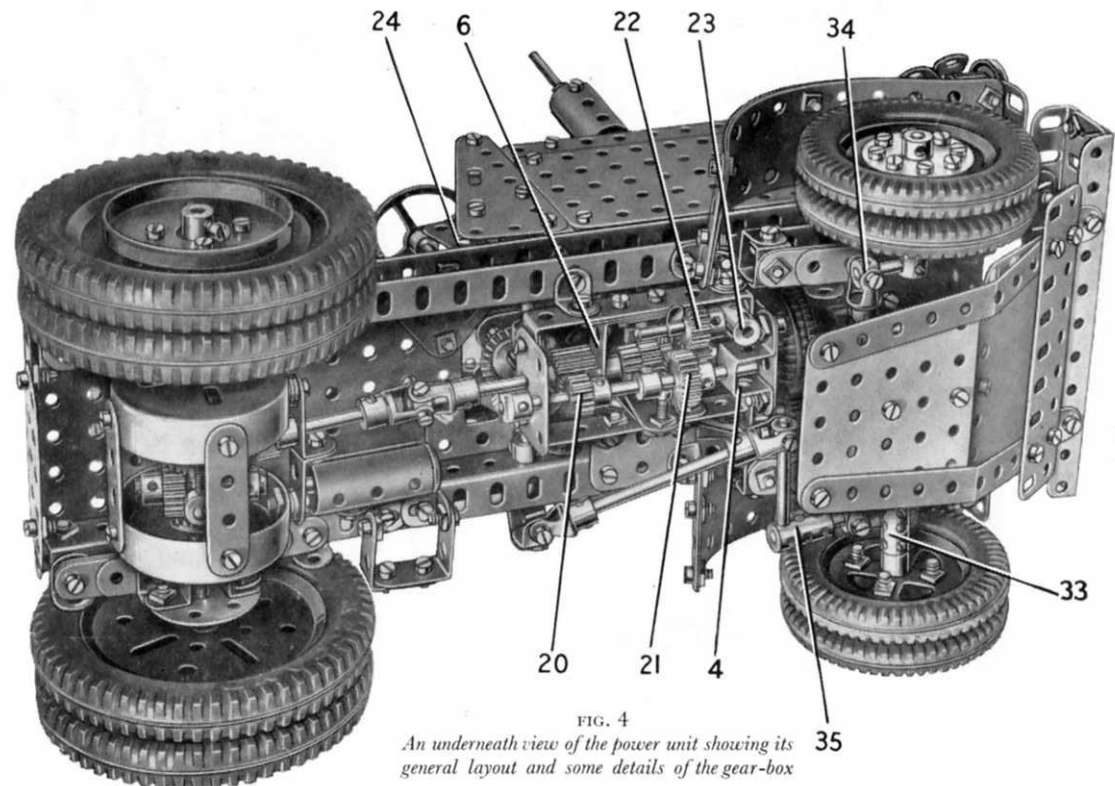
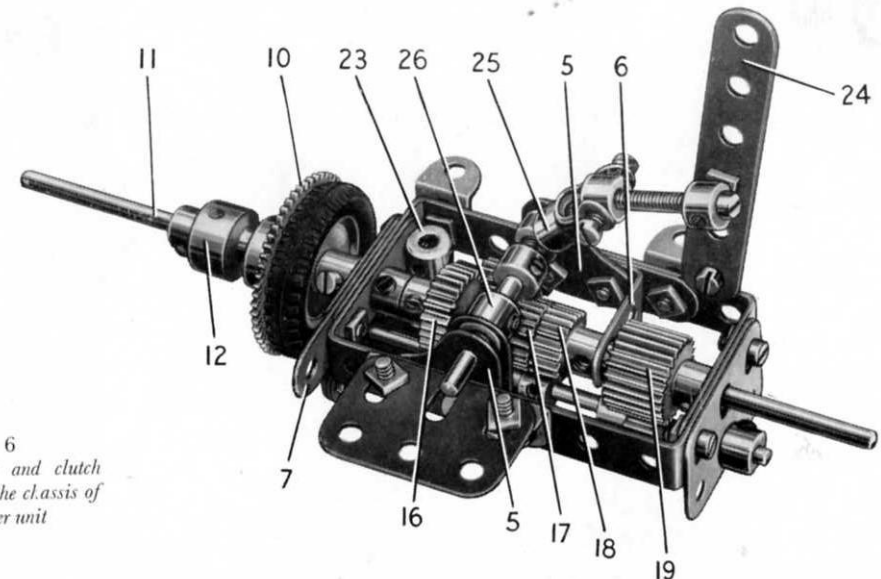
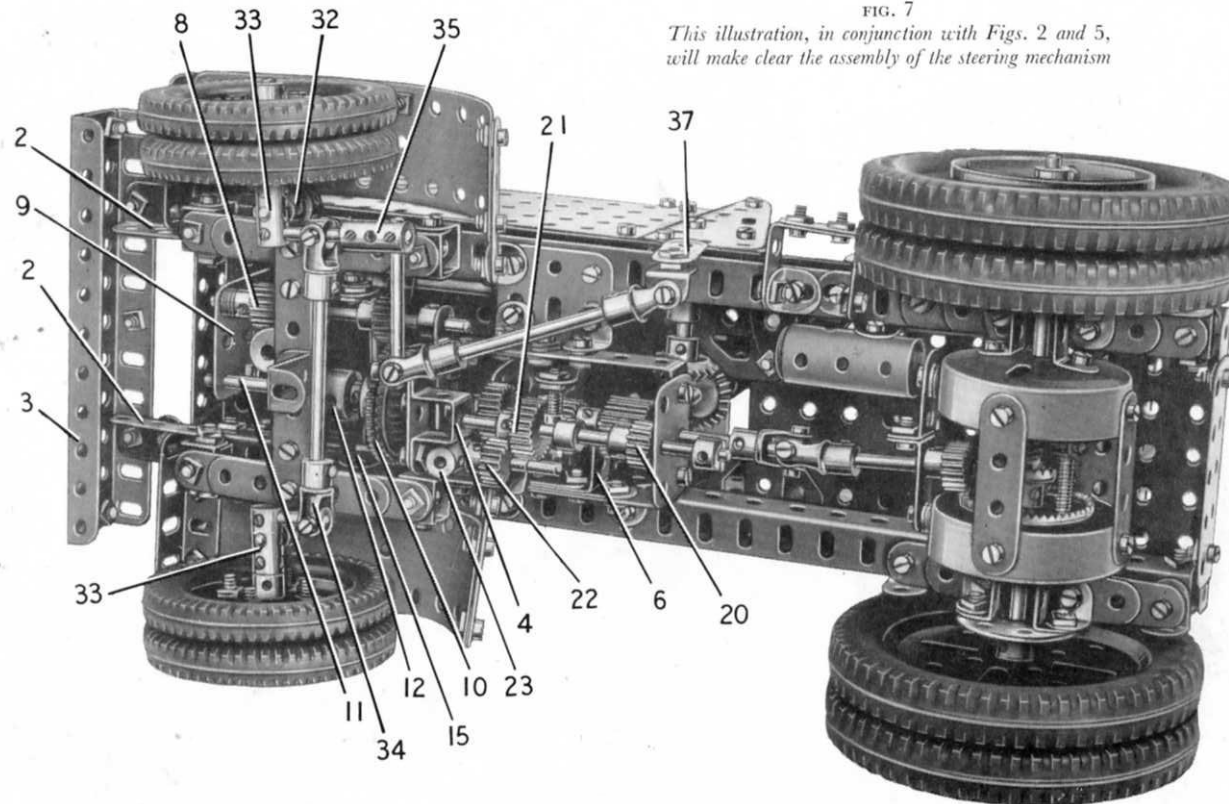

FIG. 4
FIG. 6
FIG. 7
side-members are connected by a $5\frac{1}{2}'' \times 3\frac{1}{2}''$ Flat Plate and a $3\frac{1}{2}''$ Angle Girder (1), to which a $2\frac{1}{2}''$ Flat Girder is bolted. Each side-member is extended forward three clear holes by a $2\frac{1}{2}''$ Angle Girder (2) (Fig. 7), and to these is bolted a $5\frac{1}{2}''$ Angle Girder. A $5\frac{1}{2}''$ Flat Girder is fixed to the $5\frac{1}{2}''$ Angle Girder to support a further $5\frac{1}{2}''$ Angle Girder (3). Two Flat Trunnions are bolted to the front edge of the $5\frac{1}{2}'' \times 3\frac{1}{2}''$ Flat Plate as shown in Fig. 2.
An E15R Electric Motor is bolted by one of its flanges to one side-member of the chassis, and is connected to the other side-member by two Fishplates (see Fig. 2). The frame of the gear-box consists of two $3'' \times 1\frac{1}{2}''$ Double Angle Strips bolted together by their lugs, with a $1\frac{1}{2}''$ Flat Girder attached at each end by bolts passed through its slotted holes. To one of the Flat Girders is fixed a Double Bent Strip (4) (Fig. 4), and to each Double Angle Strip is bolted a $1''$ Corner Bracket (5) (Fig. 6). A $1'' \times 1''$ Angle Bracket (6) is attached
Two Angle Brackets are also bolted to one side of the frame, and these are fixed direct to the chassis side-member. Two further Angle Brackets are spaced from the other side of the frame by a Washer on each bolt, and a $1\frac{1}{2}''$ Flat Girder bolted to these Angle Brackets (see Fig. 6) is attached to the chassis.
A Worm is fixed on the Motor shaft and is arranged to drive a $\frac{1}{2}''$ diameter, $\frac{1}{2}''$ face Pinion (8) (Fig. 7) fixed on a $3\frac{1}{2}''$ Rod. This Rod is mounted in the Strip (7) and in a $1\frac{1}{2}''$ Flat Girder (9) that is supported by a $1\frac{1}{2}''$ Angle Girder bolted to the Motor. The Pinion (8) is spaced from the Flat Girder by four Washers and the Rod is held in position by a Collar. The $3\frac{1}{2}''$ Rod also carries a $\frac{1}{2}'' \times \frac{1}{4}''$ Pinion that drives a 57-tooth Gear (10) on a $5''$ Rod (11). This Rod is supported in the Flat Girder (9) and in one end of the gear-box frame, and it forms the gear-box main shaft. The Gear (10) is gripped in a Socket Coupling (12) that is free to turn on Rod (11). The Gear is pressed by a Compression Spring against a Motor Tyre on a $1''$ Pulley fixed on Rod (11). The Compression Spring is placed between the Socket Coupling (12) and a Collar, and this assembly forms the clutch mechanism.
The Rod (11) (Figs. 6 and 7) carries, inside the gear-box frame, a Collar, a $\frac{3}{4}$ " Pinion (16) and a $\frac{1}{2}$ " Pinion (17). The Rod projects about $\frac{1}{4}$ " beyond Pinion (17) into a $\frac{1}{2}$ " Pinion (18) on the output shaft. This shaft is a 2 $\frac{1}{2}$ " Rod mounted in one end of the frame and in the 1" x 1" Angle Bracket (6), and it carries also a $\frac{3}{4}$ " diameter, $\frac{1}{2}$ " face Pinion (19) (Fig. 6).
The layshaft is a 3 $\frac{1}{2}$ " Rod fitted with a $\frac{1}{2}$ " Pinion (20) (Fig. 7), a Collar and a $\frac{3}{4}$ " Pinion (21). The layshaft is mounted as shown in Fig. (7) and is free to slide in its bearings, but the sliding movement is limited by one half of a Dog Clutch, which serves as a Collar. A $\frac{1}{2}$ " reverse Pinion (22) (see Fig. 4) is retained on a 1 $\frac{1}{2}$ " Rod by a Spring Clip but is free to turn on the Rod. The Rod is fixed in the centre cross hole of a Coupling (23), which is screwed as shown on to a bolt at one end of the frame. It should be noted that one of the bolts supporting the Double Bent Strip (4) (Figs. 4 and 7) is fitted with a nut before it is passed through the frame, so that the shank of the bolt is clear of the Coupling (23).
The sliding movement of the layshaft is controlled by a lever (24) (Fig. 6) which is formed by a 3" Strip *lock-nutted* at its lower end to the chassis. A Collar is screwed on to a bolt fixed in the lever by a nut, and a 1 $\frac{1}{8}$ " Bolt fixed in the Collar is fixed also in a Swivel Bearing (25) (Fig. 6). A $\frac{3}{8}$ " Bolt passed through the boss of the Swivel Bearing is screwed into a Collar fixed on a 2" Rod mounted in the Corner Brackets (5). A Crank (26) is fixed on the Rod, with a Compression Spring between it and one of the Corner Brackets (5), and a $\frac{1}{2}$ " Bolt held in the Crank by two nuts engages between the Pinion (21) and the Collar on the layshaft (Fig. 7).
Top gear is obtained by sliding the layshaft so that Pinion (21) (Fig. 7) engages both Pinions (17) and (18) (Fig. 6). Second gear is provided by meshing Pinion (19) (Fig. 6) with Pinion (20) (Fig. 7) and Pinion (21) (Fig. 7) with Pinion (17) (Fig. 6). Reverse is obtained when Pinion (19) (Fig. 6) is in mesh with Pinion (20) and Pinion (21) engages the reverse Pinion (22) (Fig. 7), which is in constant mesh with Pinion (16) (Fig. 6).
A 3 $\frac{1}{2}$ " Rod is passed through one half of the casing and on it a 1 $\frac{1}{2}$ " Contrate (28) is mounted *freely*. A $\frac{3}{4}$ " Contrate (29) is *fixed* on the Rod, which extends into a Coupling (30). Two 1" Screwed Rods are fixed by nuts in the Contrate (28) and on each of them a Collar is screwed as shown. A 1 $\frac{1}{2}$ " Rod passed through the Coupling (30) is fixed in the Collars. Two $\frac{3}{4}$ " Pinions are mounted *freely* on Pivot Bolts, which are screwed into the Coupling (30) opposite to each other. These Pinions engage the Contrate (29), and mesh also with a similar Contrate on a 3" Rod passed through the other half of the axle casing. Washers are placed on the 3" and 3 $\frac{1}{2}$ " Rods so that the Pinions and Contrates mesh accurately, and so that the Contrate (28) engages a $\frac{1}{2}$ " Pinion on a 1 $\frac{1}{2}$ " Rod supported in one of the Angle Brackets (27). This Rod is connected by a Universal Coupling to the gear-box output shaft (see Fig. 7).
The completed axle is connected by two Angle Brackets to each of the rear springs (see Fig. 7). These are each made from two $3\frac{1}{2}$ " Strips and a $2\frac{1}{2}$ " Strip and are attached to the chassis by $\frac{3}{8}$ " Bolts, each of which is fitted with an Angle Bracket. The rear ends of the springs are spaced from the chassis by four Washers on each Bolt.
Each of the front wheels (see Figs. 4 and 7) consists of two 2" Pulleys clamped together by four $\frac{3}{4}"$ Bolts that fix a Wheel Disc to the face of the outer Pulley. The wheel is mounted freely on a $1\frac{1}{2}"$ Rod held in a Coupling (33). These Couplings are fixed on 1" Rods that are free to turn in the Cranks (32) and are
freely on a $3\frac{1}{2}"$ Rod that carries a $\frac{3}{8}"$ Bevel Gear (36). The Rod is fitted also with a Crank (37) (Fig. 7), and is held in the chassis side-members by a Collar. An Angle Bracket is *lock-nutted* to Crank (37) and to the Angle Bracket in turn is *lock-nutted* an End Bearing fitted with a $2\frac{1}{2}"$ Rod. This Rod is connected by a swivel bearing to a 2" Rod fixed in the Coupling (35). The swivel bearing is obtained from a Universal Coupling.
A protection plate is arranged underneath the steering mechanism as shown in Fig. 4. The plate is attached to the Girder (3) (Fig. 2) by Obtuse Angle Brackets, and is supported by a 1" Reversed Angle Bracket bolted to the axle beam.